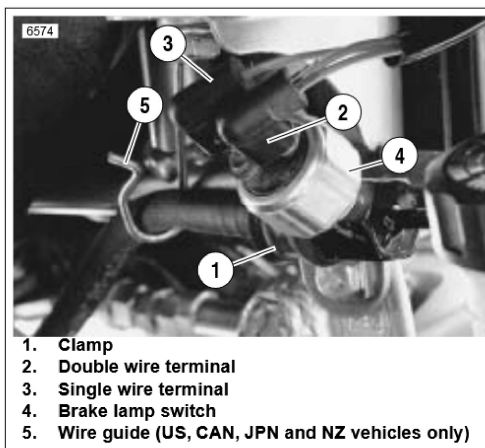

Figure 2. Rear Brake Line and Switch
7. See Figure 2. Remove wires from terminals (2,3) at top of brake lamp switch (4).
8. See Figures 2 and 6. Remove and retain clamp and hardware attaching brake line to ground strap frame tab.
9. See Figures 2 and 6. If applicable, release brake line from wireform attached to lower right oil tank frame tab.
1. Coat threads of rear brake lamp switch with LOCTITE PIPE SEALANT WITH TEFLON and install to **new** brake line. Tighten switch to 84-96 in-lbs (9.5-10.8 Nm). See Figure 2. Tighten as required to orient terminals as shown in Figure 2.
4. See Figures 2 and 6. If applicable, attach brake line to wireform on lower right oil tank tab.
5. See Figures 2 and 6. Install screw and clamp (1) to fasten rear brake line ground strap and star washer to frame tube on right side of motorcycle. Tighten to 10-12 ft-lbs (13.6-16.2 Nm). Note: Star washer goes between ground strap and frame tab.